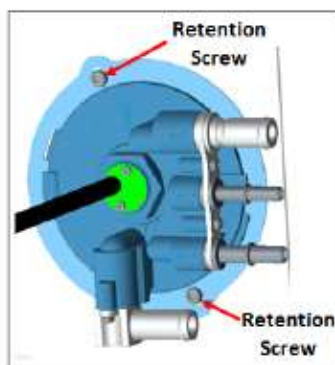

Figure 3: Remove and retain MFHU retention screws.
9. Remove the two #10-32 screws securing the MFHU. See Figure 3 below.